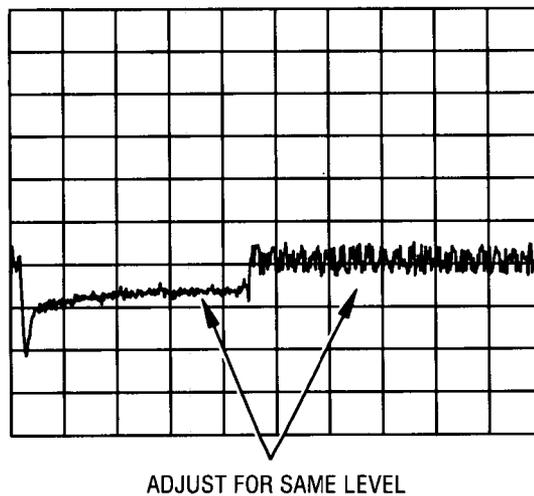

Figure 5-66. Typical A26TP2 (DET) Pulse Waveform.
5. Set the oscilloscope to 1 usec/Div. the CH A trace should be similar to Figure 5-66.